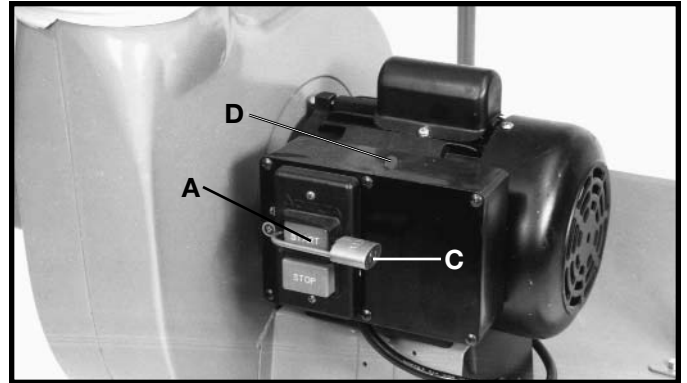

Fig. 29
Your dust collector motor is supplied with a resettable circuit breaker. If the motor shuts off or fails to start due to an overload condition, turn the dust collector switch “OFF;” let the motor cool three to five minutes, and push the reset button (D) Fig. 29, on the circuit breaker to reset the breaker. The motor can then be turned on again in the usual manner. If the overload continues to trip, take the dust collector to a Delta Authorized Service Center for repair.